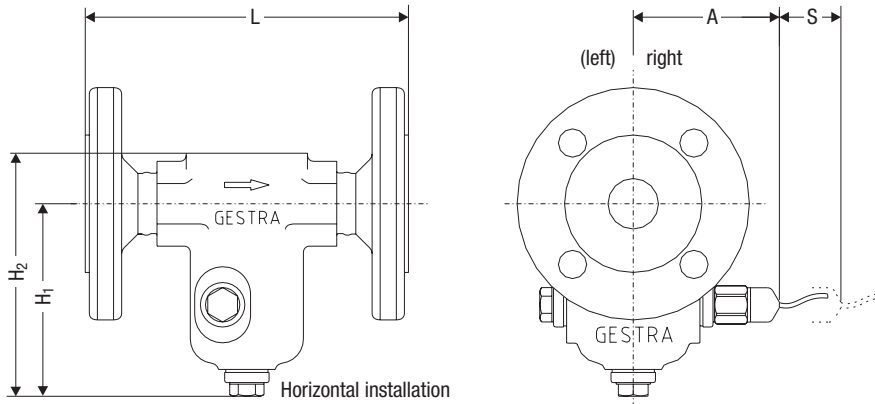
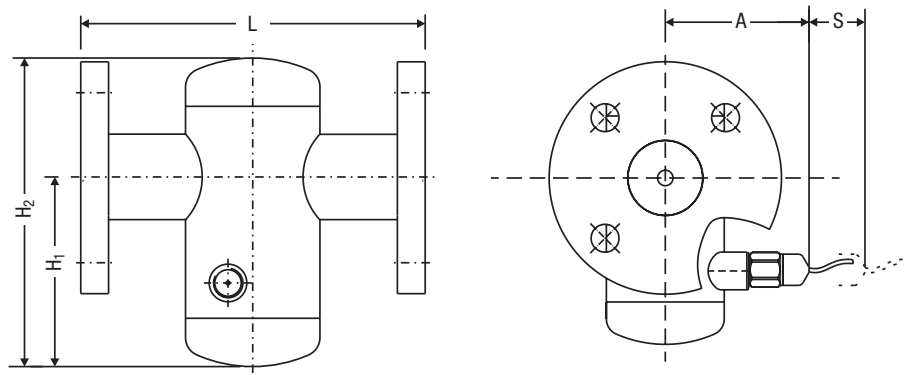

Fig. 7
Fig. 8
Install test chamber only in horizontal pipes, see **Fig. 7** and **Fig. 8**.
3. Consider space required for servicing. When the test chamber is installed a minimum space is required for removing the measuring electrode (see table for **Fig. 7** and **Fig. 8**).